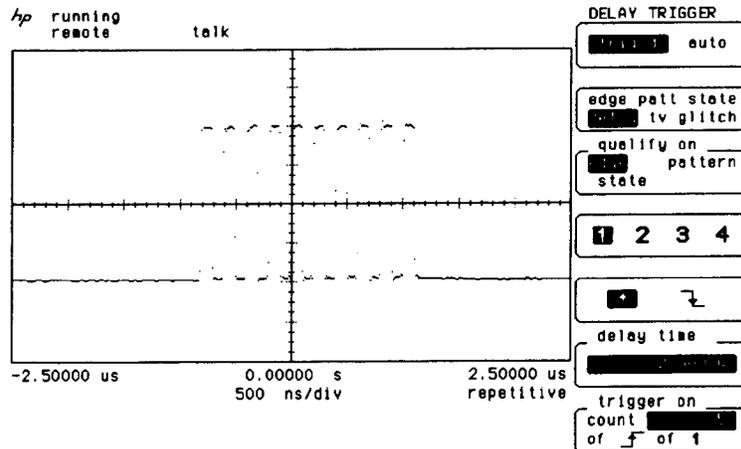

Figure 6-16. Ten Burst Pulse Triggered on Pulse 5
- Return to the trigger menu and set **trigger on count** to 5. This tells the oscilloscope to trigger on the 5th rising edge of the next burst (see Figure 6-16).